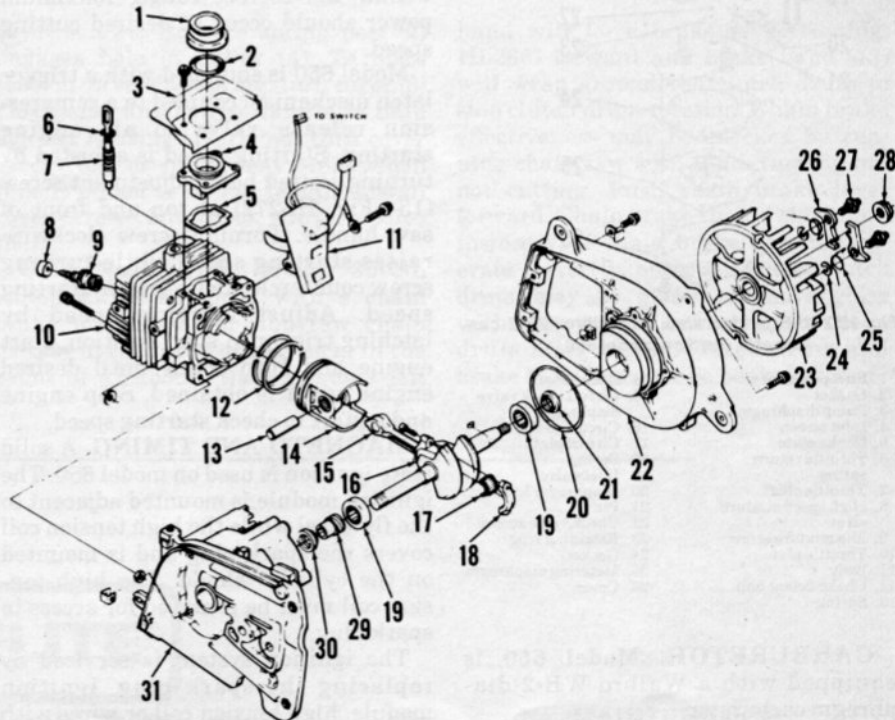
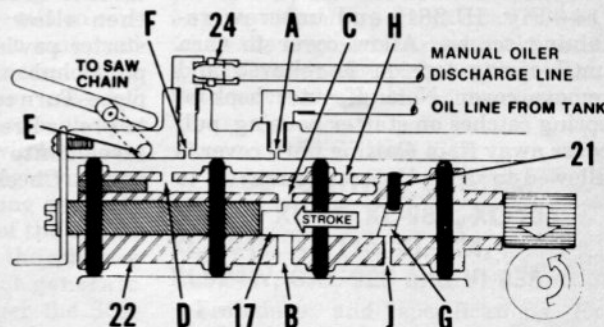
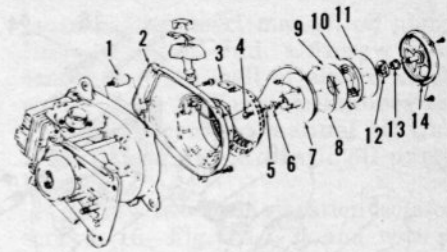

Fig. HL274—Exploded view of model 650 engine.
Fig. HL276—Cross-section of oil pump. Refer to text for operation.
Fig. HL281—Exploded view of model 650 starter.
CRANKSHAFT, CRANKCASE AND SEALS. Crankshaft is supported by roller bearings (19—Fig. HL274) in crankcase (31) and back plate (22). Bearings and seals may be pressed out of crankcase and backplate using Homelite tools previously listed. Inspect bearings, seals and "O" ring (20)
AUTOMATIC CHAIN OIL PUMP. Model 650 is equipped with an automatic oil pump driven by worm (29—Fig. HL274) on crankshaft. Oil is pumped by plunger (17—Fig. HL276) as it reciprocates due to cam pin (21) located in cam groove (G). Oil enters pump through port (A) and passes around pump body (22) to enter plunger bore through port (B). Oil exits through ports (C, D and E) to saw chain. Oil may be pumped through port (F) and fitting (24) to manual oil pump. Oil is also routed through ports (H and J) to cam groove to reduce back pressure on oil plunger.
Fig. HL279—Exploded view of manual oil pump used on model 650. End of oil line (12) is connected to fitting (24—Fig. HL276). Oil line (12) must be disconnected from fitting and pulled into air box for removal.
RECOIL STARTER. Refer to Fig. HL281 for an exploded view of starter assembly. Starter pawl components attached to flywheel are shown in Fig. HL274.
To disassemble starter, hold cover (14—Fig. HL281) and unscrew retaining screws. Allow cover to turn until spring tension is relieved and remove cover. Note: If outer hook of spring catches on starter housing, pull cover away from housing until cover is allowed to turn. Unscrew screw (4) to
Clean and inspect components. Lubricate sides of rewind spring with a small amount of Homelite® ALL-TEMP Multi-Purpose grease or a lithium base grease. Do not oil spring. Install inner spring shield (11), rewind spring (10) and spring lock (12) in cover with spring wound as shown in Fig. HL282. Install outer spring shield (9—Fig. HL281) and snap ring (8). Insert bushings (6 and 13) in rope pulley (7) being sure knobs on bushings align with notches in pulley. Slide pulley onto post in cover and check to be sure splines on pulley engage splines in spring lock. Install and tighten cap-screw (4) to 45 in.-lbs. Wind rope around pulley in clockwise direction as viewed from screw end of pulley. Set cover in housing. Pull rope handle and then allow rope to rewind so that starter pawls will be forced open and pulley hub can slide between them into place. Turn cover clockwise 2 or 3 turns to preload rewind spring, snap plastic screen into place and install cover screws. Check starter operation.